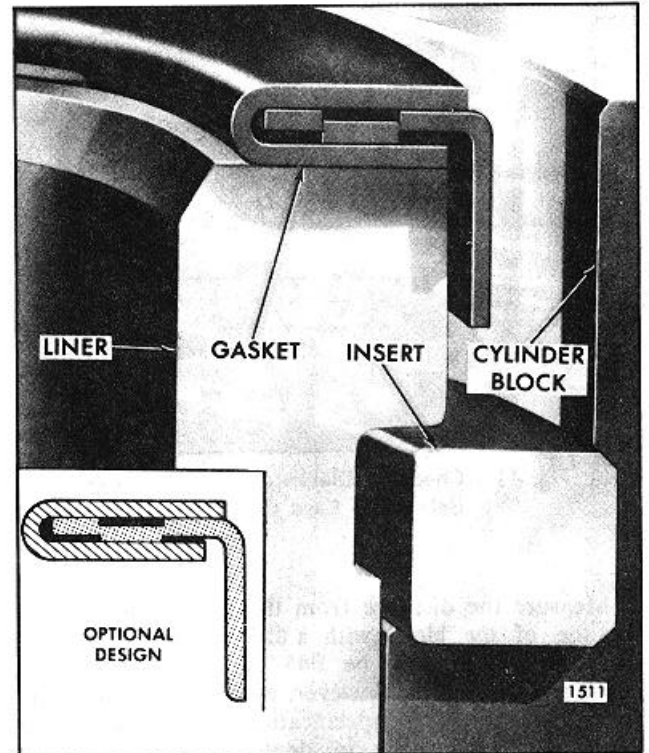

Fig. 10. Cylinder Liner Mounting in Block
2. Place a standard size cylinder liner insert (.1795"-.1800" thick) in the block counterbore (Fig. 10).